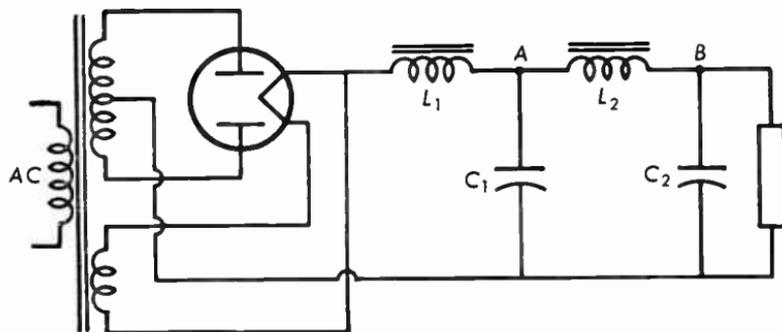

Fig. 9.06a Full-wave rectifier with two-section filter.
9.06 The rectifier circuit of Figure 9.06a is connected to a 60-cycle a-c line. The secondary voltage is 550 volts peak per plate.  $L_1 = 25$  henries, 1000 ohms;  $L_2 = 15$  henries, 300 ohms;  $C_1 = C_2 = 8$  microfarads. The equivalent load resistance across the output capacitor is 6000 ohms. Calculate the approximate per cent ripple across the input and the output capacitor. Do not use formulas.